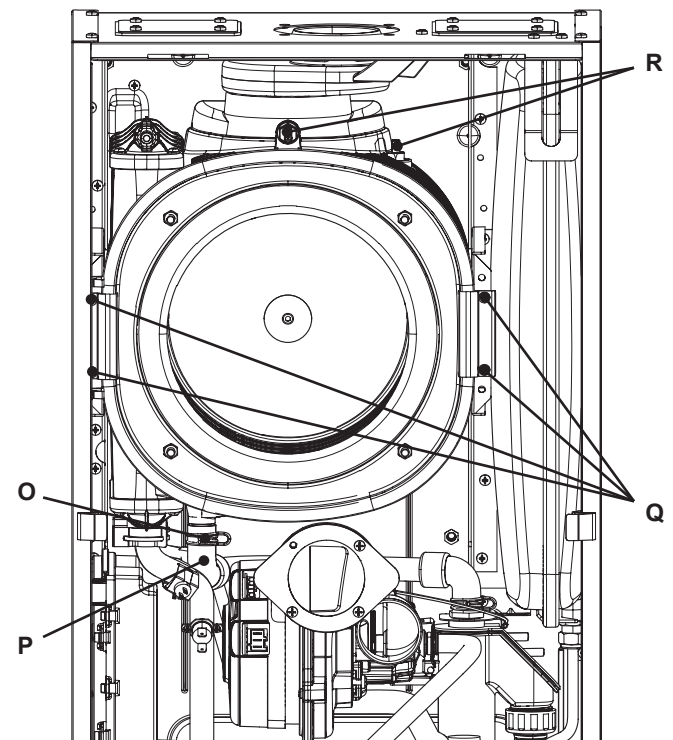

Figure 5.3
disconnect the rubber pipe P (Figure 5.3).
- 12 Unscrew the screws Q and remove the clamps (Figure 5.3).
- 13 Disconnect the two connectors R by pressing the plastic hook placed on the side of the connector (Figure 5.3).